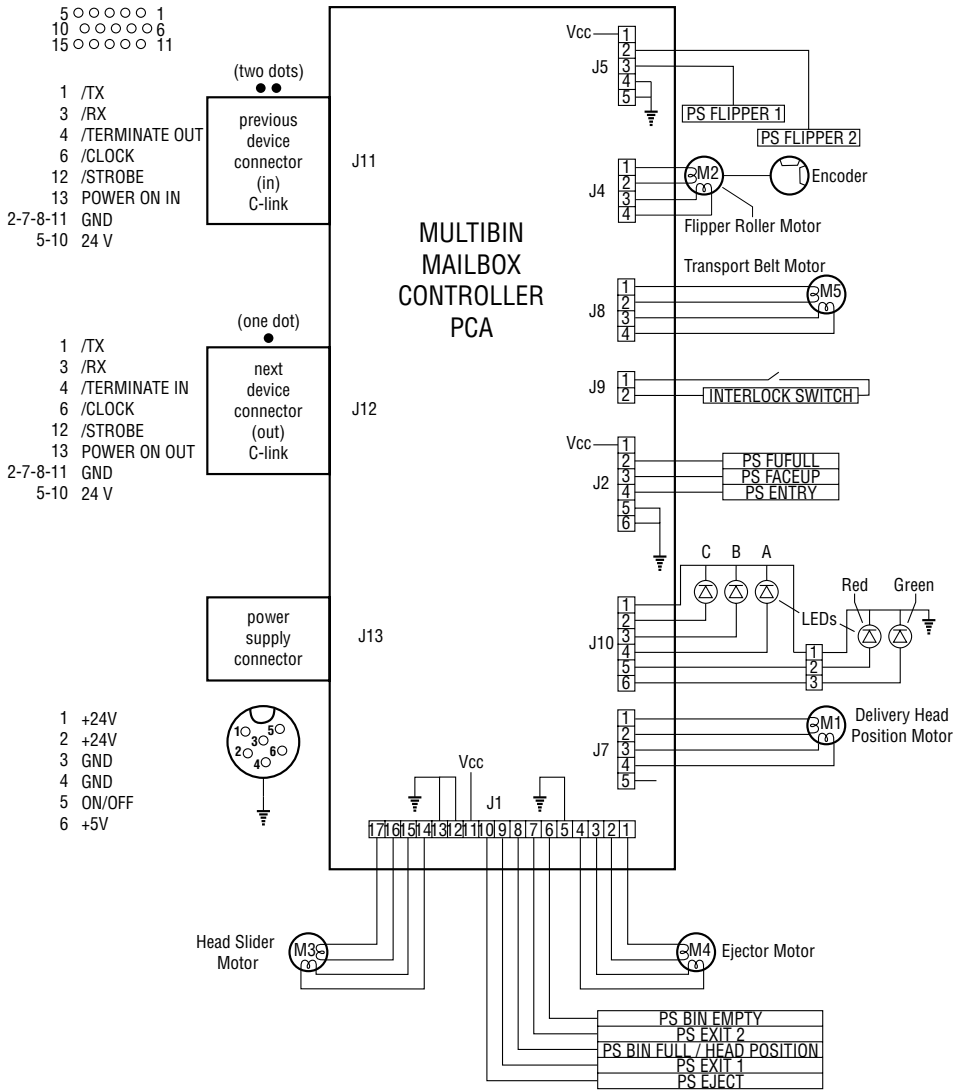

Figure 7-36 8-bin Mailbox Main Wiring Diagram
- Figure 7-36, “8-bin Mailbox Main Wiring Diagram,” on page 714